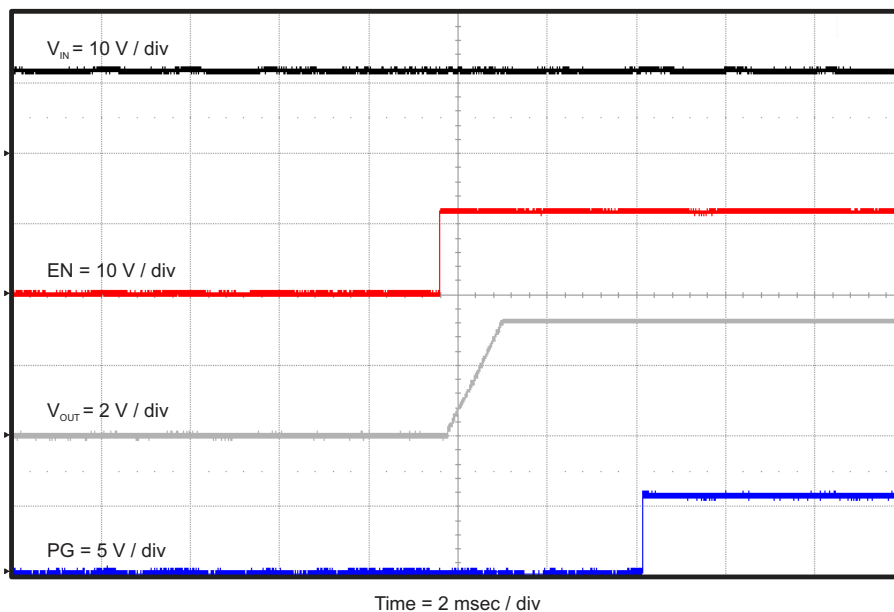

Figure 4-12. TPS65580EVM-575 CH1 Start-Up Relative to EN
The TPS65580EVM-575 start-up waveform for CH1 relative to enable (EN) is shown in Figure 4-12. Load = 4 Ω resistive. The start up waveforms for CH2 and CH3 are similar and not shown.